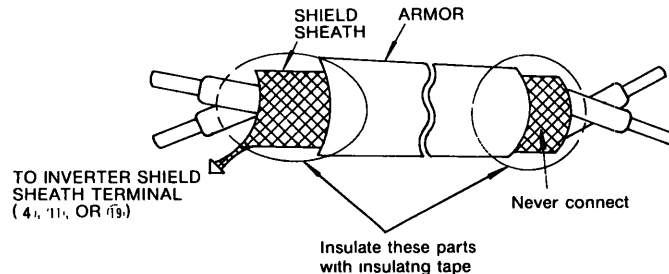

Fig. 8 Shielded Lead Termination
(2) CONTROL CIRCUIT
Use the shielded lead or twisted-pair shielded lead for the control circuit line and connect the shield sheath to any one of the inverter terminals ④, ⑪, or ⑱. See Fig. 8.